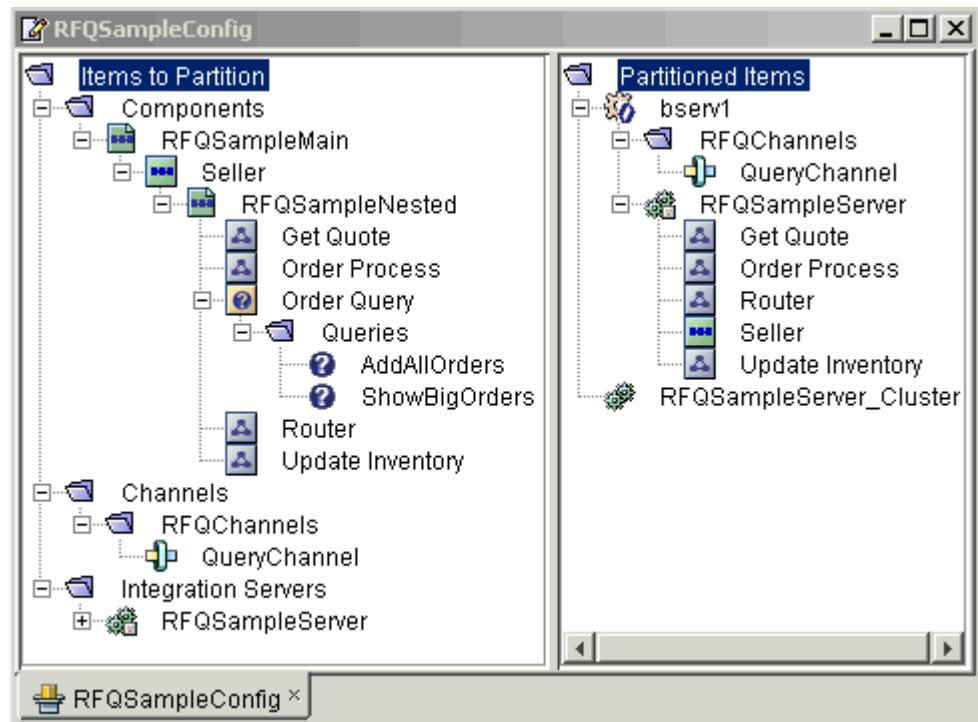

Figure 17-5 Queries Folder Showing Generated SQL Queries
3. Expand the **Queries** folder in the **Items to Partition** panel, and you will now find SQL queries generated and listed (Figure 17-5).